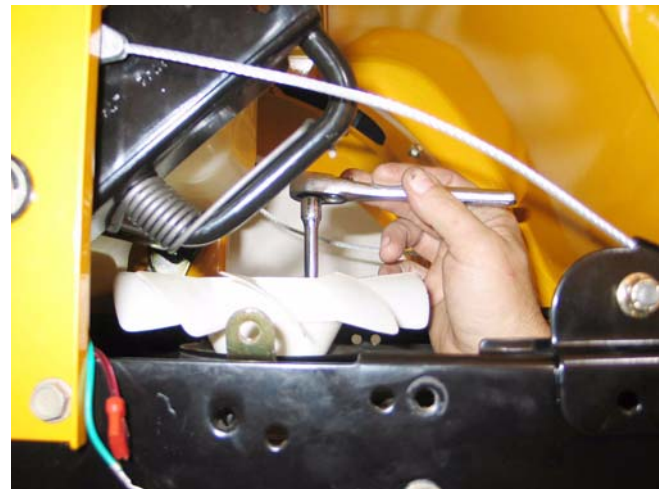

Figure 29.12
- 29.12. Remove the fan from the input pulley on the transaxle using 5/16" wrench. See Figure 29.12.